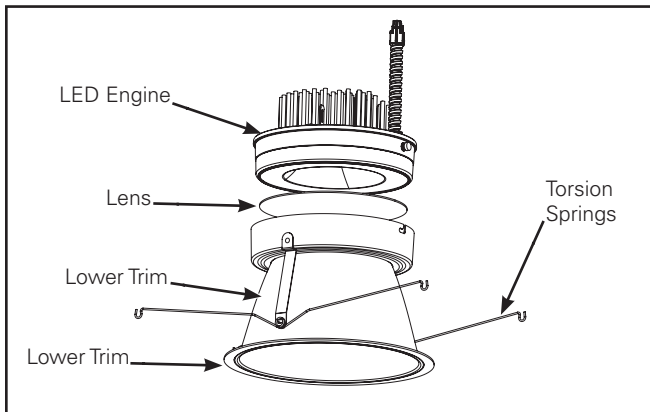

Figure 2. Lower Trim Assembly
1. Remove reflector from protective packaging. Remove plastic trim ring and discard. Remove LED engine from protective packaging (Figure 2.).